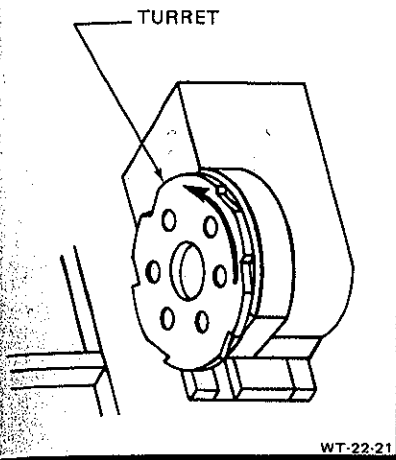

Figure 7.2-1
The turret always rotates in the same direction as shown in Figure 7.2-1. Rotation of the turret is powered by a hydraulic motor.
5. Solenoid 21 is energized and the turret run solenoid valve shifts to the run position. The plunger of the deceleration/acceleration valve begins to retract from the cam and the hydraulic motor begins to rotate. The hydraulic motor drives the turret through a gear train in the direction shown in Figure 7.2-1. The rate of rotation increases as the valve plunger is retracted from the cam.